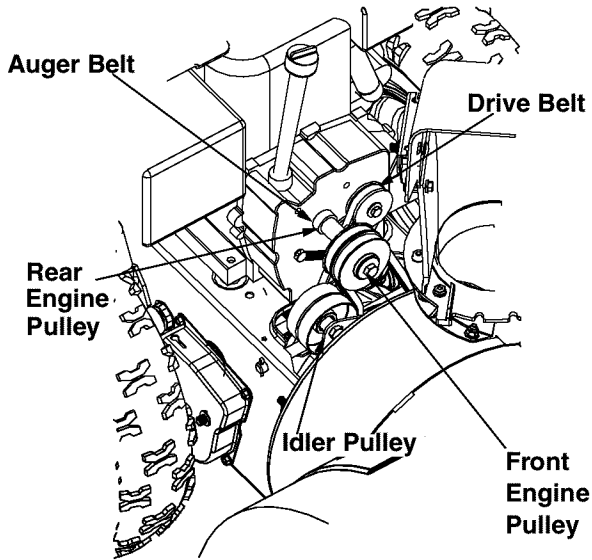

Figure 22
- Remove the two belts from the two engine pulleys. For location of the pulleys, see Figure 22.
- Pull the idler pulley away from the drive belt and remove the belt from the engine pulley. You will find the idler pulley in front of the engine and under the belt cover that you removed earlier. See Figure 22.